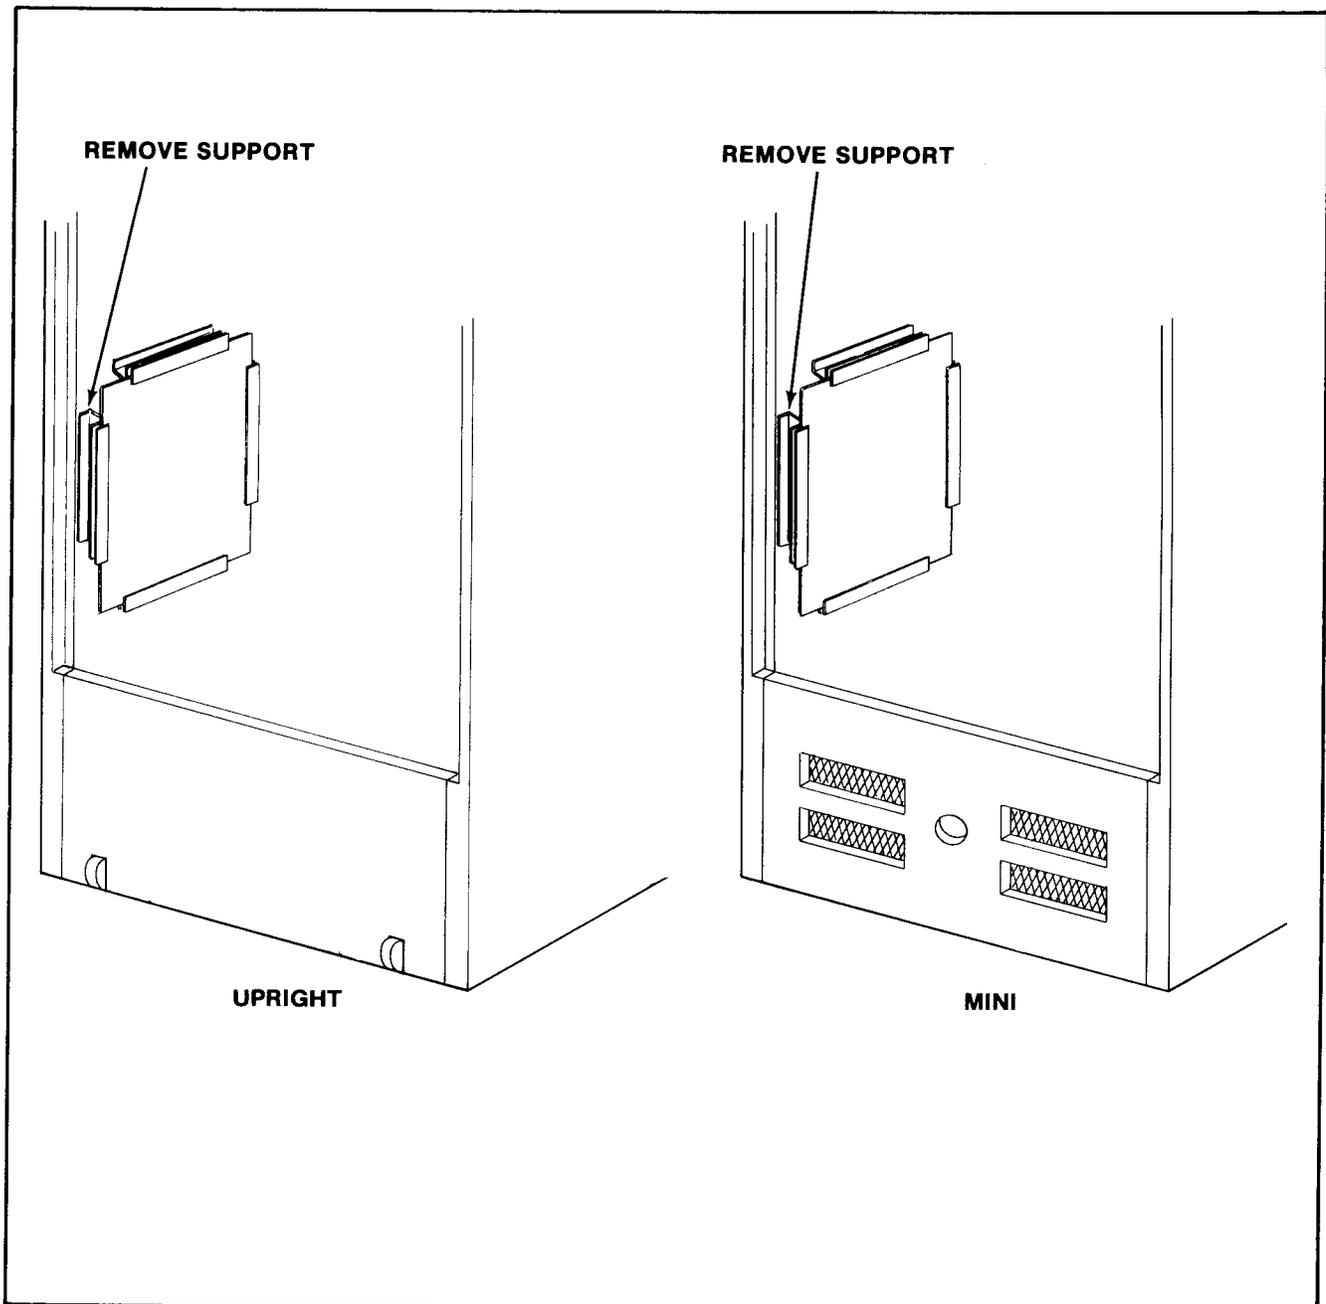

Figure 4-13 Removing PCBs
1. UPRIGHT MODEL. See Figure 4-13.
- Disconnect the linear power supply board from all its cabling, remove the P.C.B. supports indicated in Figure 4-13, and slide the linear power supply board out the back of the cabinet.
2. MINI MODEL. See Figure 4-13.
- Disconnect the linear power supply board from all its cabling, remove the P.C.B. supports indicated in Figure 4-13 and slide the linear power supply board out the back of the cabinet.
3. COCKTAIL TABLE MODEL. See Figure 4-13.
- Remove the linear power supply board. See Figure 4-13.